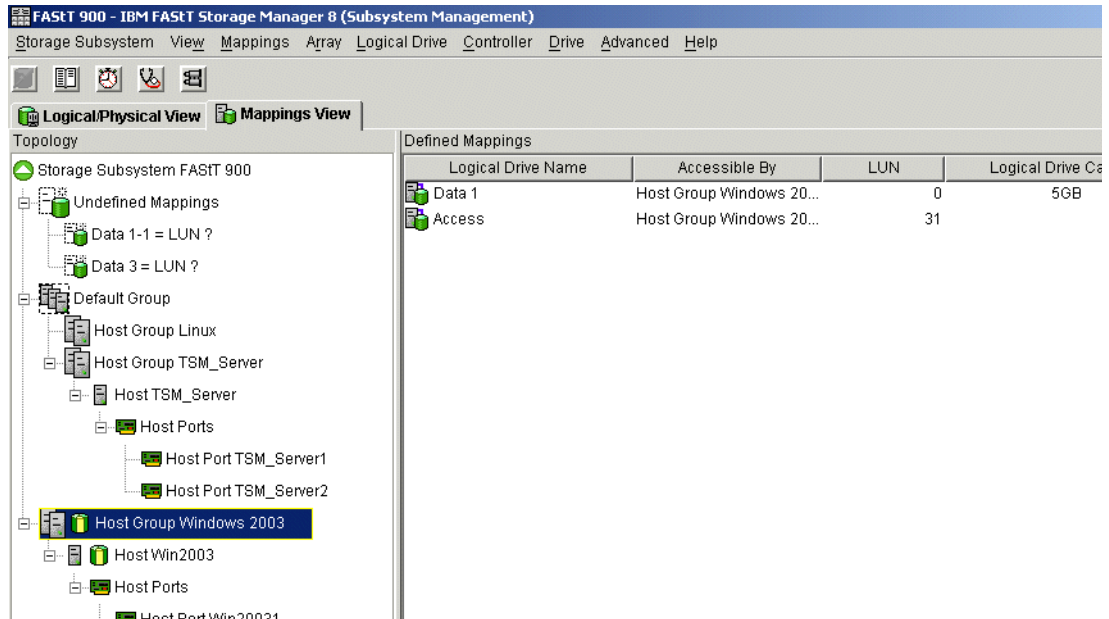

Figure 7-27 Subsystem Management window
1. Open the Mappings View of the Subsystem Management window. The newly created FlashCopy logical drive appears in the undefined mapping section (Figure 7-27 on page 218).